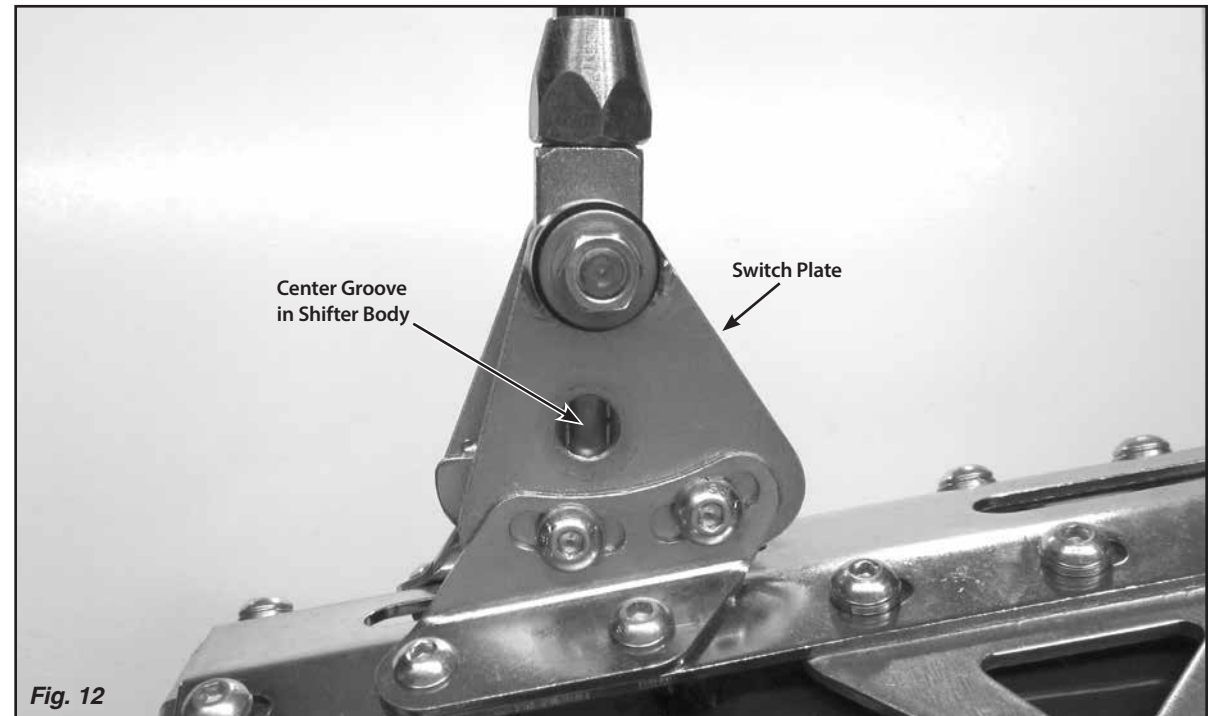
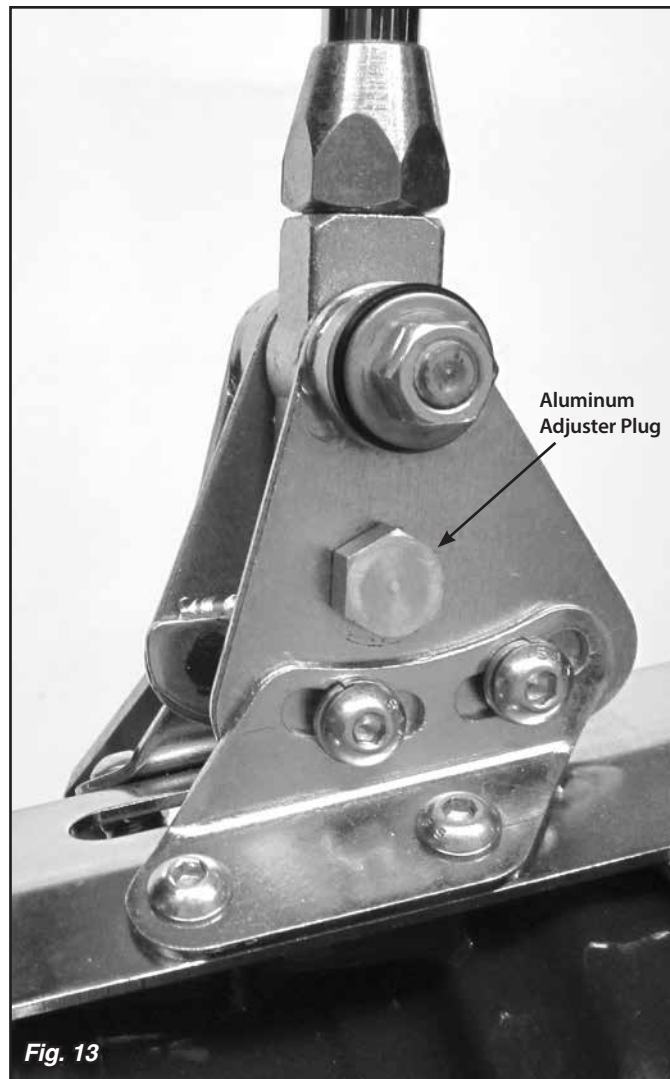

Fig. 12
Fig. 13
Step 19: Put the shifter lever into the Reverse position. Reposition the switch plate so that the hole in the switch plate lines up with the center groove in the shifter body. **Fig. 12** Screw the provided aluminum adjuster plug into the neutral safety switch opening. Wiggling the switch plate slightly forward and back while you are screwing the aluminum adjuster plug in will help get the shifter body centered on the adjuster plug. **Fig. 13**
- **If there are (2) connections for a neutral safety switch**, run a #12 (or heavier) stranded wire from these terminals in your fuse panel to the (2) terminals on the neutral safety switch. That completes the Neutral Safety Switch wiring.